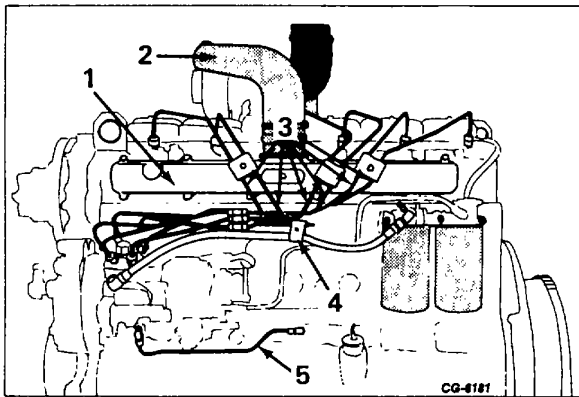
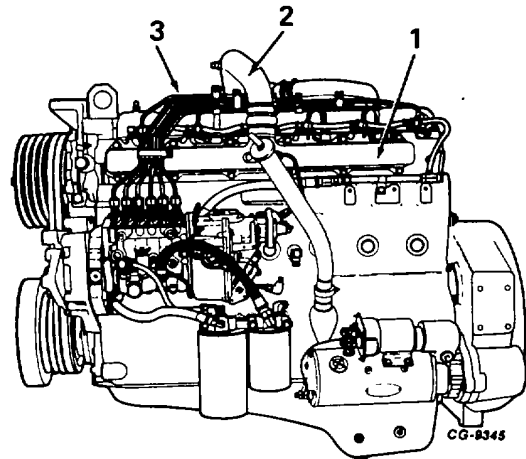

Figure 3. - Left Side View DT-466 (w/UTDS* Model 100 Fuel Injection Pump)
Figure 3a. - Left Side View DT466C (w/Robert Bosch Model MW Fuel Injection Pump)
1. Disconnect Turbocharger crossover tube (2, Fig. 3 or Fig. 3a) (if equipped) from intake manifold (1).
- a. Disconnect fuel lines (3, Fig. 3 or 3, Fig. 3a) at injection nozzles and pump.
- b. (Engines equipped with UTDS* Model 100 Fuel Injection Pump only) Loosen clamp (4) securing fuel lines to the hose connecting final fuel filter to injection pump.
5. Reconnect fuel lines (3, Fig. 3 or 3, Fig. 3a) to injection nozzle and pump. Torque fuel line fittings to 47 N•m (35 lbf-ft).